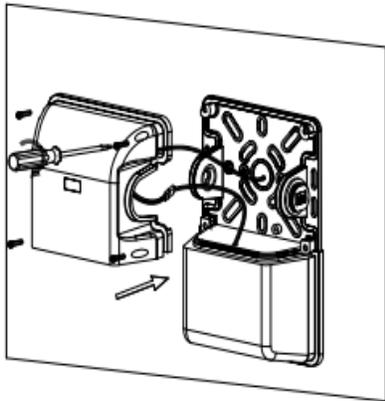

Fig 5
4. Put back the front face cover back to fixture and screw the 4 screws. (Fig 5)